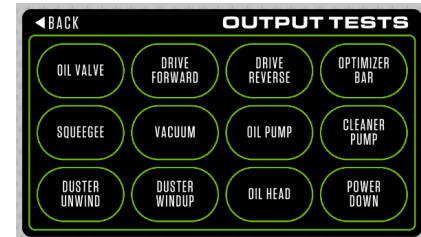

Figure 13 - Output Tests Screen
3.2.1.9 Output Tests Screen: (Figure 13)